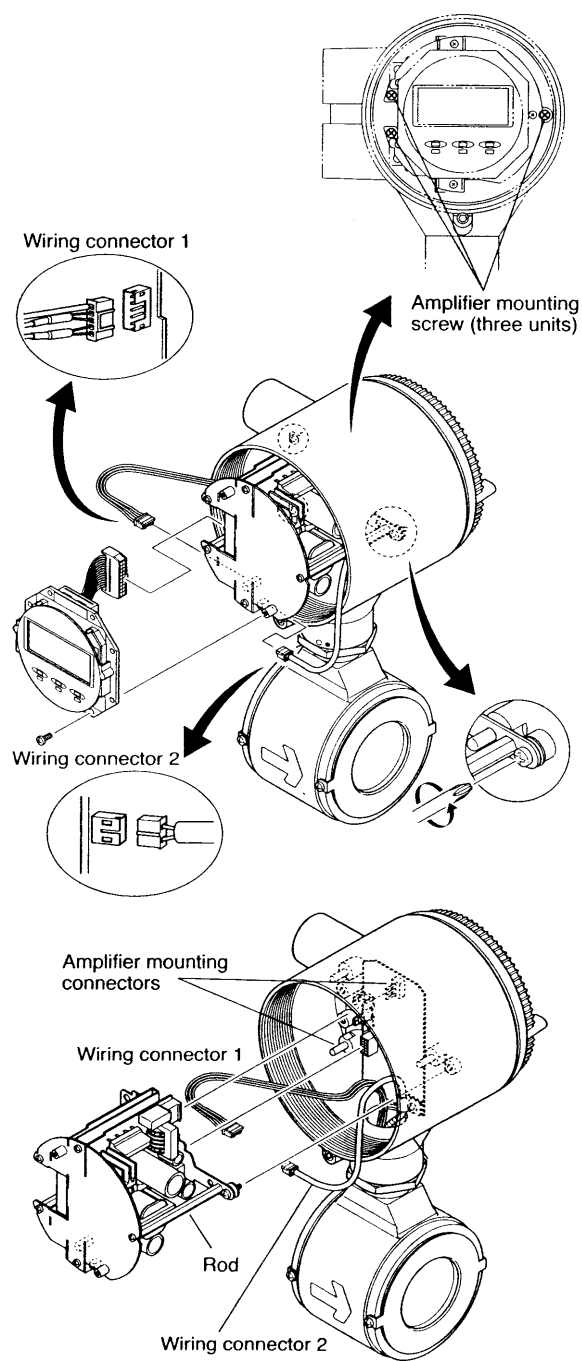

Figure 5.4.6 Assembling the Amplifier
- (1) Turn off the power.
- (2) Remove the cover.
- (3) Remove wiring connectors 1 and 2 (refer to Figure 5.4.6) from the amplifier assembly. Remove them carefully, without applying excessive force.
- (4) Loosen the three mounting screws while holding the assembly with your hand.
- (5) Pull the assembly straight out.